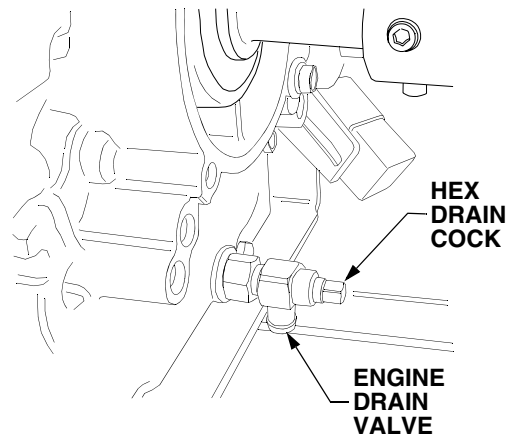

Figure 55
- Locate the engine drain valve on the rear of the engine (See Figure 55). Place a suitable container below the open end of the drain valve to collect the old oil.
- Turn the valve drain cock fully clockwise to close the valve, and clean any residual oil from the valve. Refer to Figure 55.